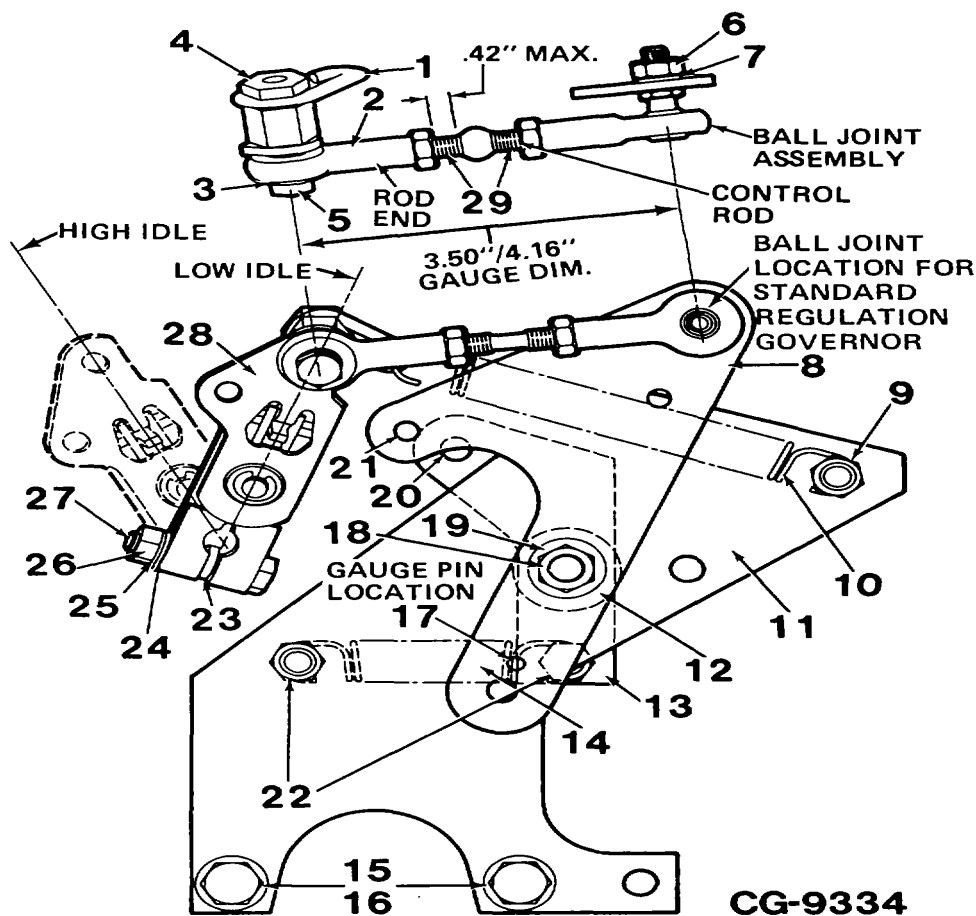

Figure 5a. Version "I" Bellcrank Linkage
LINKAGE ADJUSTMENT: (With Bellcrank) Refer to Figure 5a for Version "I" Linkage, Figure 5b for Version "II" Linkage and Figures 5b and 5c for Version "III" Linkage.
Version "I" Linkage With Standard Regulation Governor (Figure 5a)
- b. Insert 3/16" dia. (1.875" drill) gauge pin through the holes (17, Figure 5a) of the bellcrank bracket and control lever.
- a. With pump shaft in low idle position, relocate the pump lever to gauge dimension shown in Figure 5a. Do not force lever into over-travel for this positioning (Figure 5b).
- b. Spacer (23, Figure 5a) must be installed on the lever clamping bolt inside the lever slot to prevent lever breakage. Tighten clamping bolt to 55 lbf-in. (27, Figure 5a).
Exposed threads above either control rod nut must not exceed 0.42 in. (29, Figure 5a).
LEGEND FOR FIGURE 5a